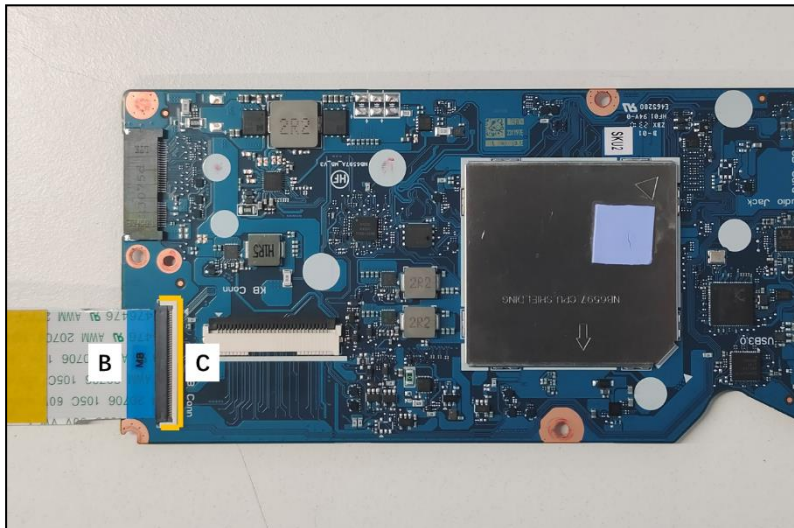

Figure 3-84. Replacing the Mainboard
2. Connect the USB board B FFC to the mainboard connector (C) (Figure 3-84).